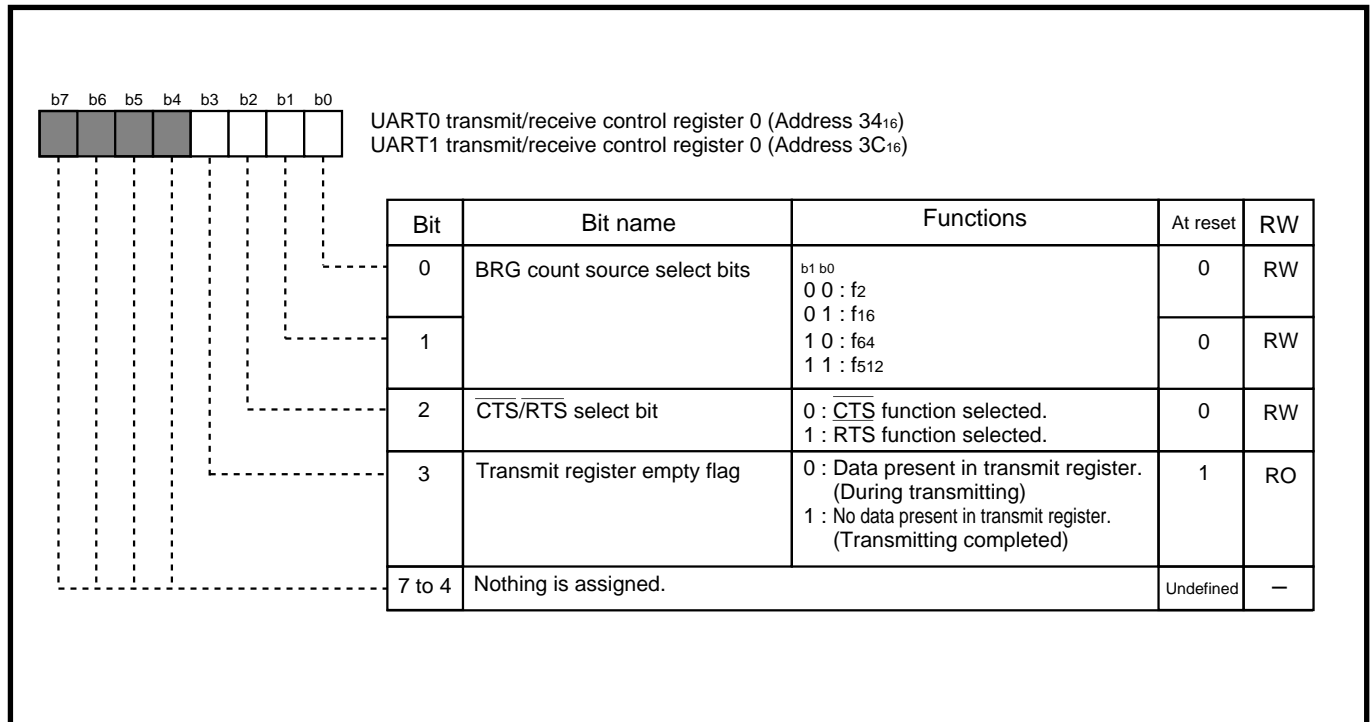

Fig. 7.2.3 Structure of UARTi transmit/receive control register 0
Figure 7.2.3 shows the structure of UARTi transmit/receive control register 0. For bits 0 and 1, refer to “7.2.1 (1) Internal/External clock select bit.”